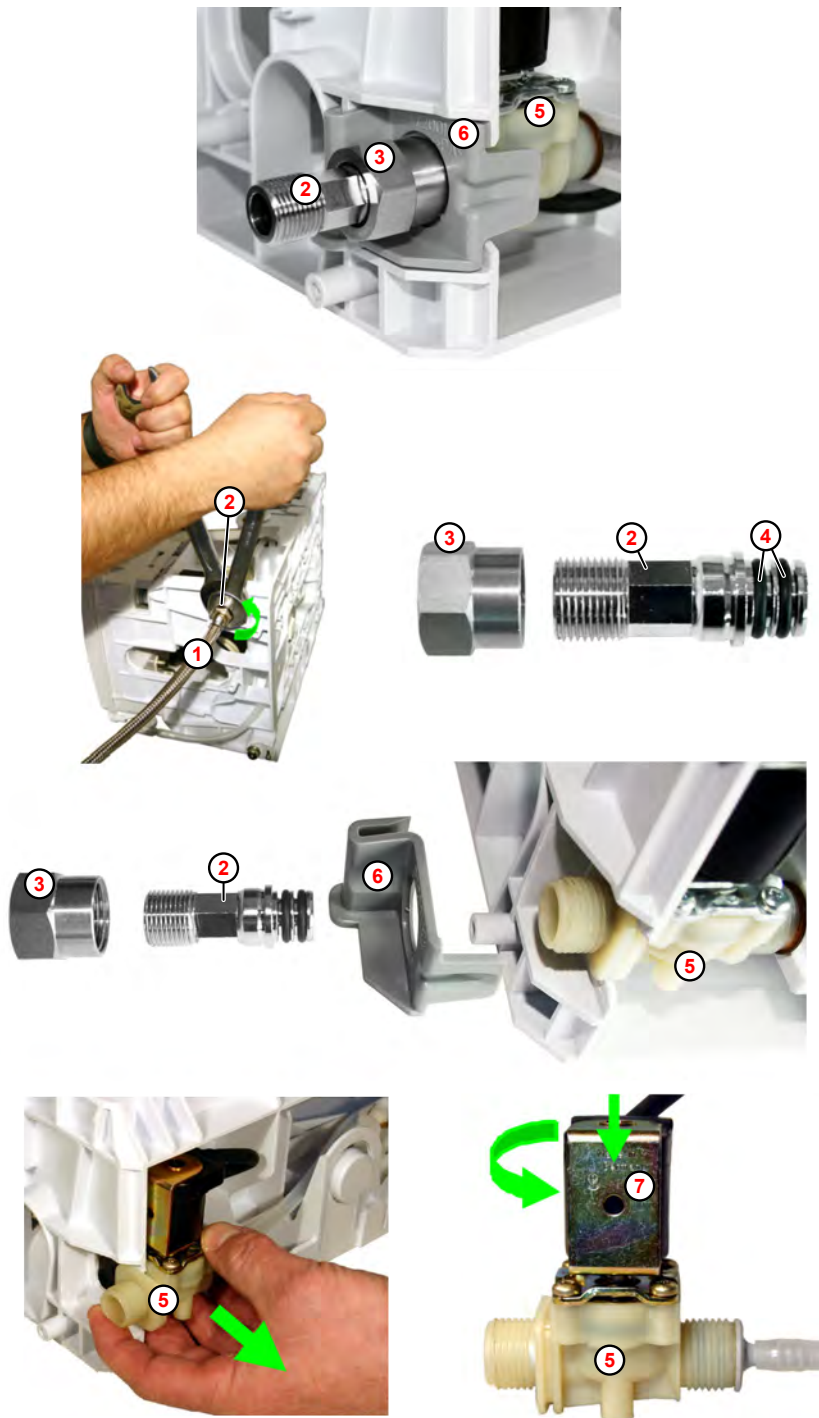

Fig. 20: Solenoid valve disassembly
1. ➤ Unscrew the inlet hose (Fig. 20 , ①).
2. ➤ Screw on the union nut ③ and carefully pull the connection adapter ② out of the valve body ⑤ .
4. ➤ Push the electrical (magnetic) coil (bayonet clutch) ⑦ against the valve body while turning it anticlockwise (to the left - approximately 30°) until the electrical (magnetic) coil is released from the lock.